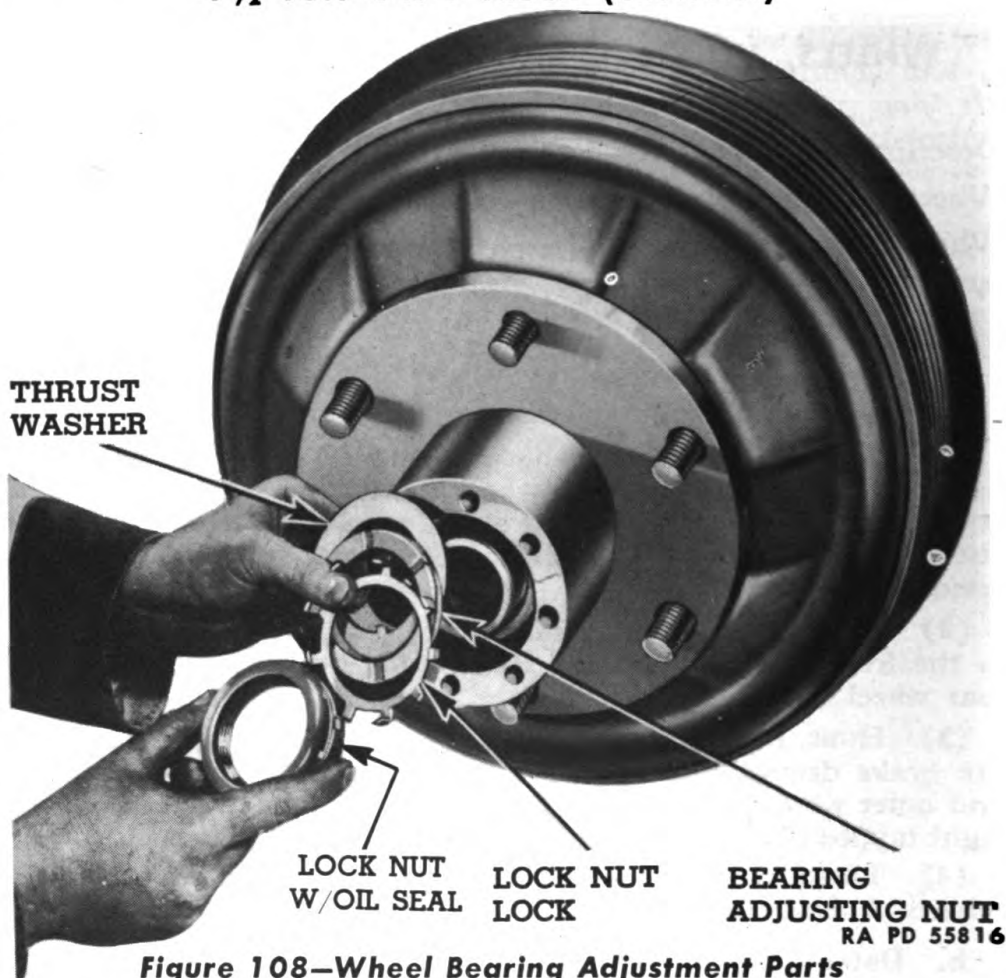

Figure 108—Wheel Bearing Adjustment Parts
b. Adjust Bearing. Raise the tang of the lock nut lock (fig. 108), and remove lock nut and seal assembly and lock nut lock. Tighten the bearing adjusting nut wrench-tight (fig. 109). Then back the adjusting nut off 45 degrees, which is equal to the distance between two adjacent flange bolt holes. Install lock nut lock and align nearest slot in adjusting nut with short tang on lock nut lock, and bend tang into slot. Install lock nut and seal, and tighten securely. Bend one long tang on lock into slot in nut.
adjusting nut (fig. 108), spacer washer, roller bearing, and wheel hub. Pull the bearing and oil seal. Drive the outer bearing cup out of hub working from inner end of hub. Wash the bearings and inside of hub with dry-cleaning solvent and inspect the bearings for being worn, chipped, or cracked. Replace all damaged parts.